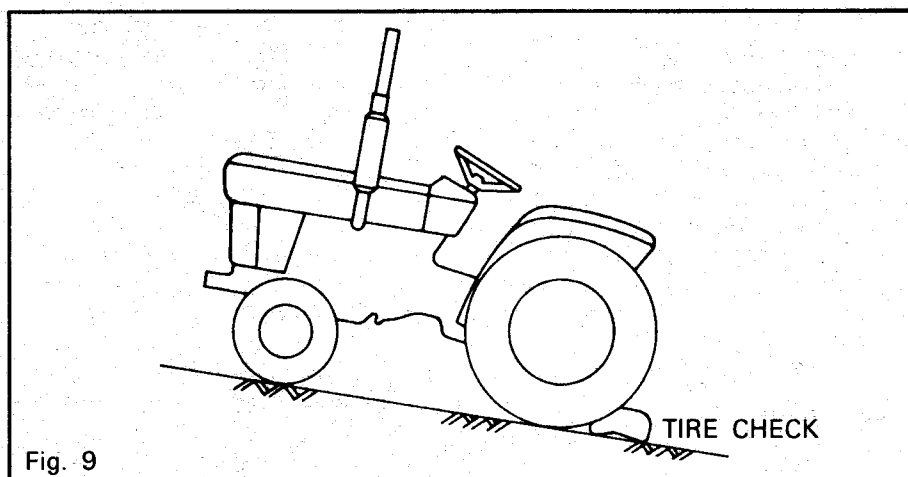

Fig. 9
**WHEN PARKING THE TRACTOR ON A SLOPE PLACE BLOCKS UNDER THE TIRES. (SEE FIG. 9)**